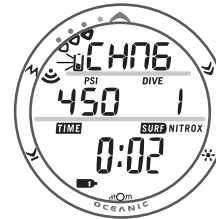

Fig. 4 - LOW BATTERY ALARM
- If the ATOM's voltage decreases to the Alarm level (2.50 volts), the Battery icon will flash and the message CHNG > BATT will scroll at the top of the display (Fig. 4). Operation will automatically revert to Main Time Mode. The ATOM would then only operate in Watch modes until the Battery becomes completely depleted.